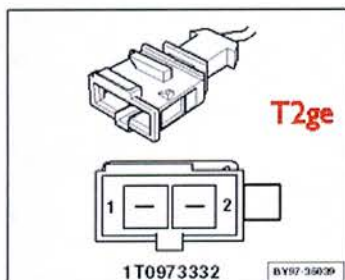

Figure 3
- With T2ge connector disconnected and an occupant sat in a natural position on the seat, with their back against the backrest, measure the resistance through the occupancy sensor (see Figure 3)